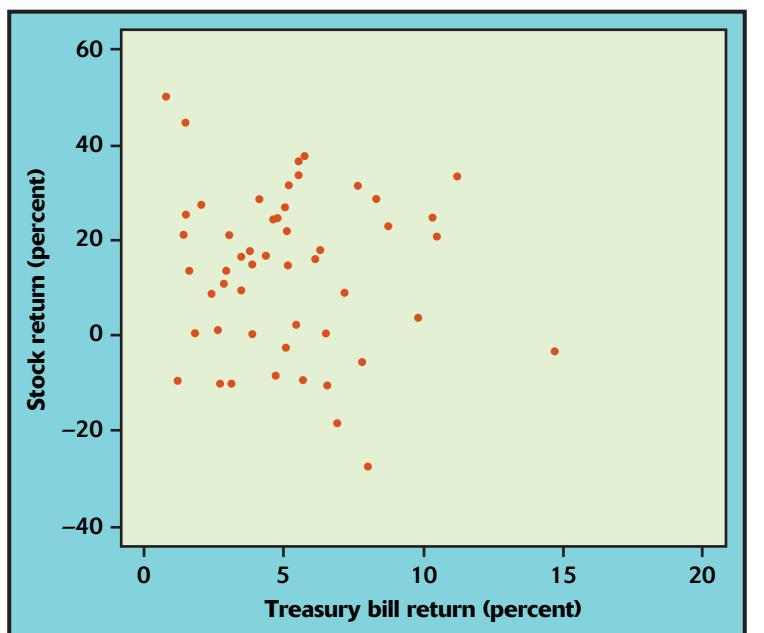

FIGURE 2.25 Annual returns on U.S. common stocks versus returns on Treasury bills for the years 1950 to 2000, for Exercise 2.99.
- 2.99 Are high interest rates bad for stocks? When interest rates are high, investors may shun stocks because they can get high returns with less risk. Figure 2.25 plots the annual return on U.S. common stocks for the years 1950 to 2000 against the returns on Treasury bills for the same years.³⁶ (The interest rate paid by Treasury bills is a measure of how high interest rates were that year.) Describe the pattern you see. Are high interest rates bad for stocks? Is there a strong relationship between interest rates and stock returns?
- 2.100 Are high interest rates bad for stocks? The scatterplot in Figure 2.25 suggests that returns on common stocks may be somewhat lower in years with high interest rates. Here is part of the Excel output for the regression of stock returns on the bill returns for the same years:
- (c) If you knew the return on Treasury bills for next year, do you think you could predict the return on stocks quite accurately? Use both the scatterplot in Figure 2.25 and the regression output to justify your answer.
- 2.101 Influence? The scatterplot in Figure 2.25 contains an outlier: in 1981, inflation reached a peak and the return on Treasury bills was 14.72%.